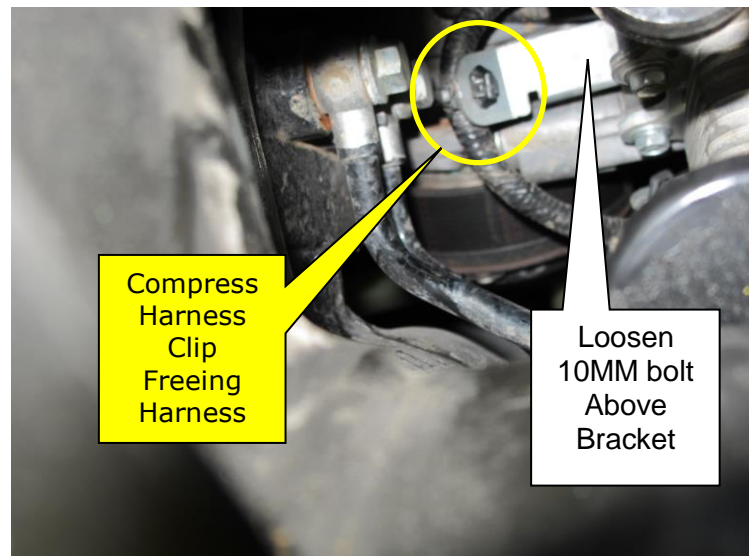

Figure 8
- Compress harness clip freeing harness from bracket in front of high pressure connection eye bolt (Figure 8).